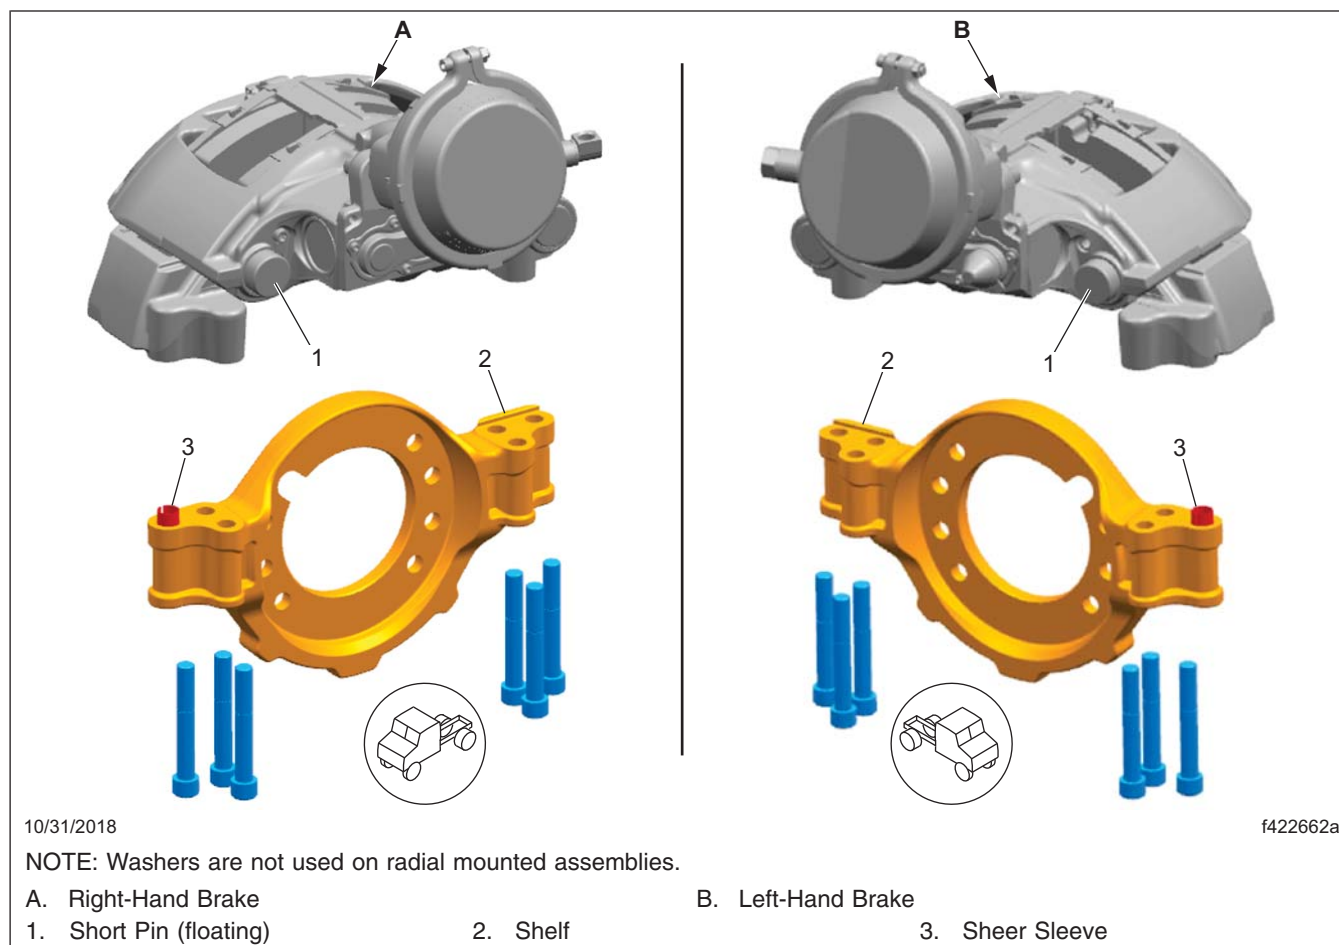

Fig. 4, Bendix Radial Mounted Caliper
9. Align each caliper/carrier assembly with the rotor by pushing the fixed pin side of the caliper against the shelf on the torque plate, then install the caliper/carrier assembly using new caliper mounting bolts. See Fig.4.